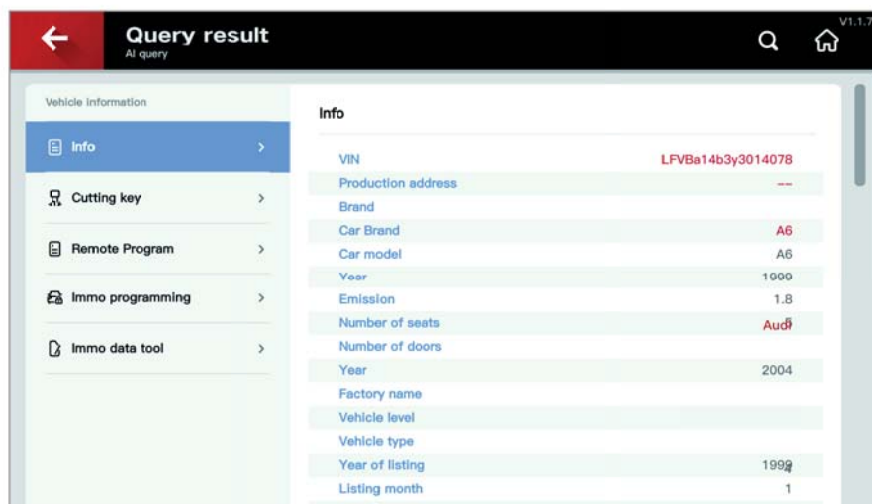

Fig.4.1.5
**AI query:** Scan the VIN code of the vehicle, it's able to automatically show the operation options like detailed information, cutting key, remote program, immo programming and immo data tool. See Fig. 4.1.5